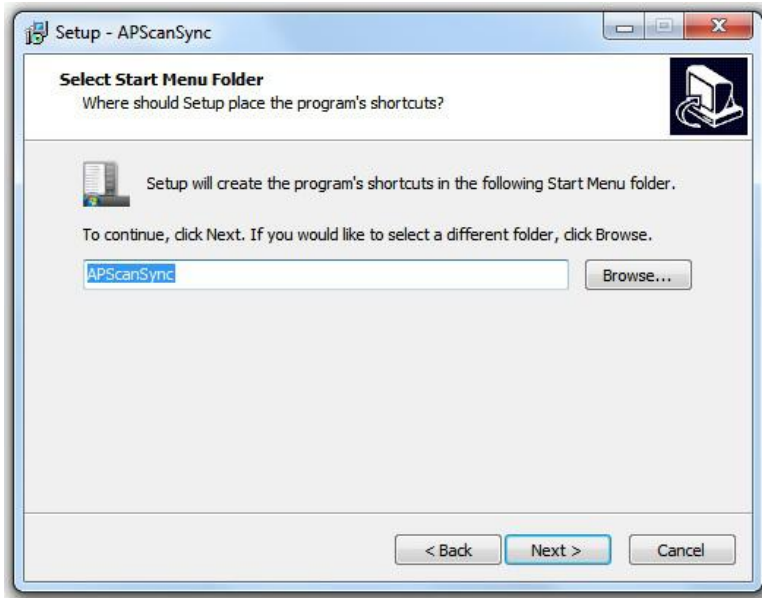

Figure 2-3
4. The dialog box to specify a Start Menu Folder is displayed (Figure 2-3). Change the Start Menu Folder if necessary. Then click [Next].